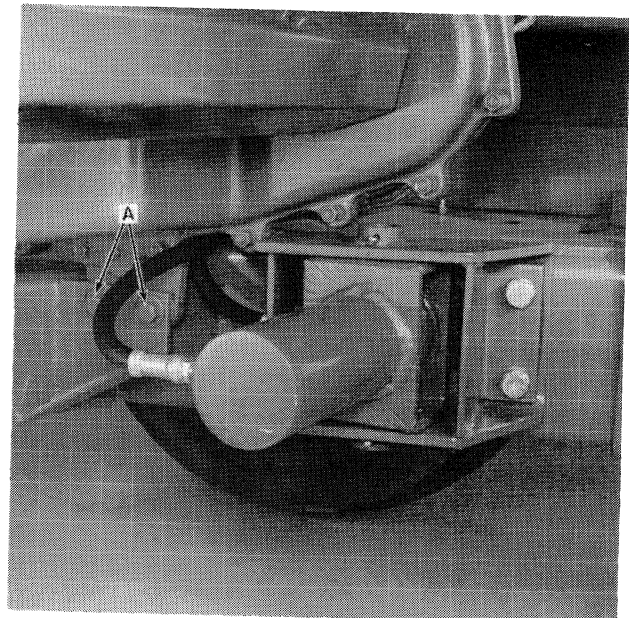

FIGURE 1-14
3. Install the reversing gearbox mounting bolts, A, Figure 1-14. Completely fill the space between the gearbox and frame with shims and washers.